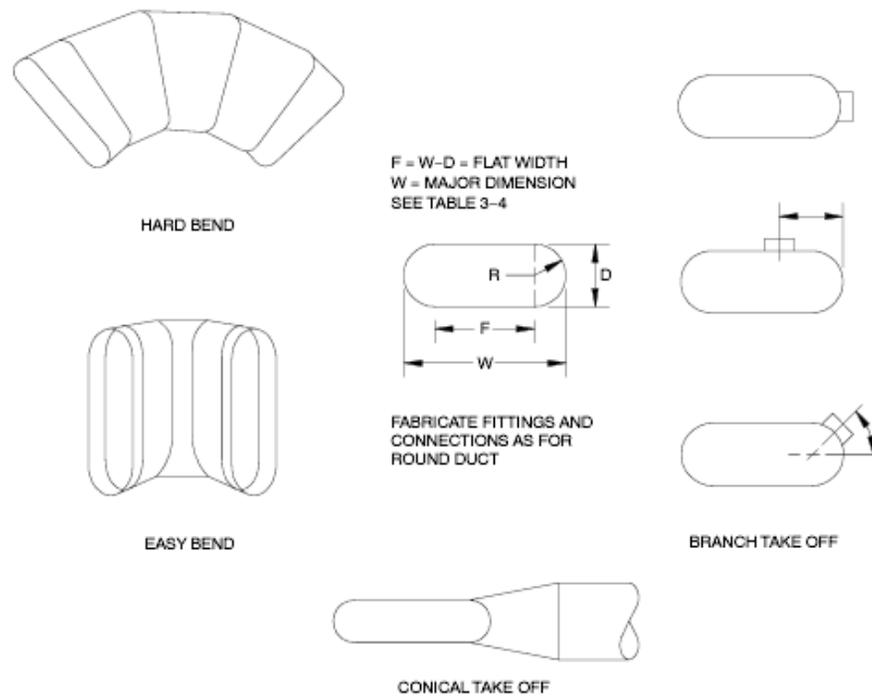

FIGURE 3-7 FLAT OVAL DUCTS
- See Figure 3-7 for large duct supports. Duct over 100 in. width may require other internal supports for shape retention.